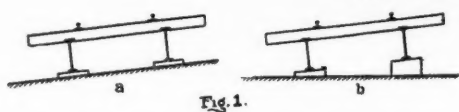

Fig. 1.
1. By building the masonry bridge seats out of level or by using beveled shoes of different heights under the bridge bearings, as in Fig. 1.
1. In Fig. 1 the girders are inclined from the vertical. For moderate elevation it is advocated by twelve replies. Some doubt the advisability of this inclination, on account of the action of the live load; but one thoroughly competent engineer considers that the girders in this position support the loads more conformably to the calculations. It is likely that high speed trains will strain the transverse bracing less, and slow trains more, than if the girders were vertical.